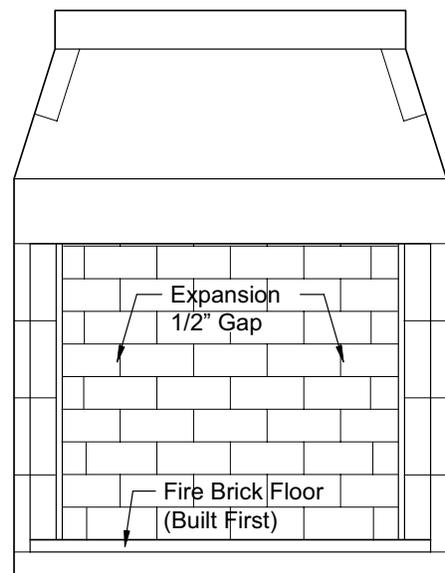

FIGURE 24
5. Set the side wall fire brick by starting at the front edge of the unit's side wall and working inward toward the back wall fire brick. The side wall fire brick, when completed, covers the 1/2" expansion gaps where both the floor fire brick and the back wall fire brick were held off the units side walls. (Figure 24)